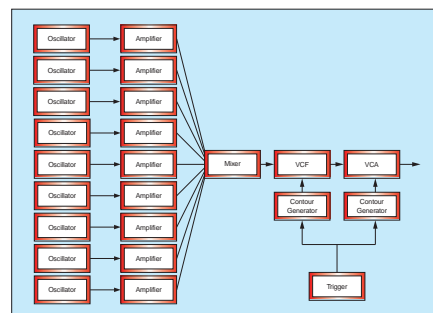

Figure 10: Adding filter and amplitude contours to our basic additive synthesizer.
more like a conventional synthesizer, albeit one with a more complex initial waveform than that produced by conventional oscillators. This then suggests how we can modify the 'instrument' in Figure 8 to design a more interesting additive synthesizer: simply add a time-varying filter and a time-varying amplifier after the output from the mixer (Figure 10).
► in Figure 10 to recreate these tonal changes more accurately. Firstly, we must assign the pitches of the oscillators to imitate the harmonic nature of the string. This is simple — it's the $1/n$ harmonic series discussed many times before. Secondly, we must consider how each of these harmonics changes in time. This is also simple: we know that the sound becomes duller as time passes, so the higher-frequency harmonics must decay more rapidly than the lower ones. Thirdly, we must determine how the overall brightness and loudness of the sound changes as the note progresses, and create filter and amplifier profiles that emulate this. But hang on a minute — if a sound can, at any instant, be determined by the relative pitches and amplitudes of its constituent harmonics, we have no need for these filters and amplifiers — the changes in the harmonics do all the work for us. This understanding then leads us to Figure 11, which is much closer to describing how a real additive synthesizer works.